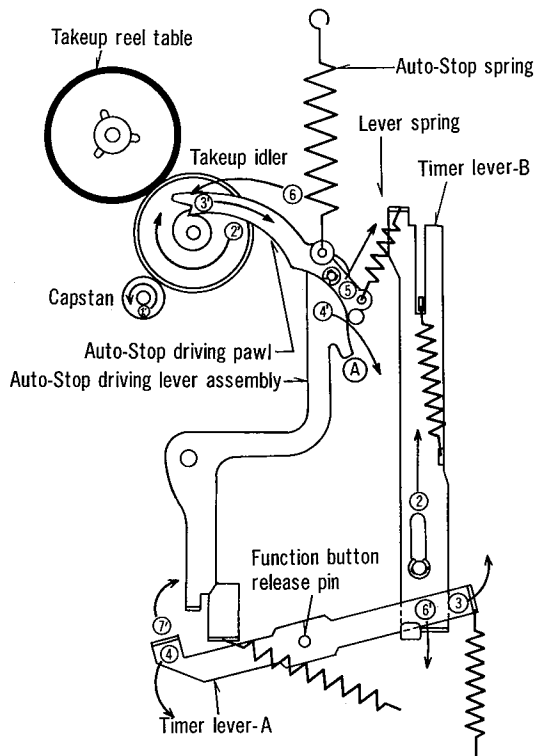
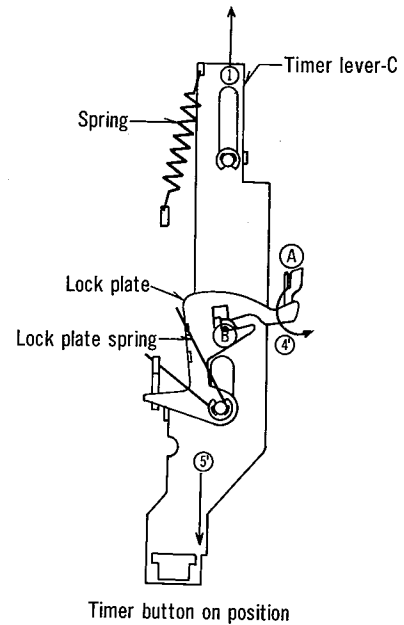

Fig. 1
Fig. 2
The explanation of this mechanism will be made based on the drawings which are described as shown in fig. 1, 2 and 3.
(1) When the power ON/OFF switch is turned **"OFF"** position (with the timer stand-by button in the **"ON"** position) as shown in fig. 1 and 2.
1. The timer lever-C is pushed in the direction of arrow (①) as shown in fig. 2.
2. The lock plate and the timer lever-C are locked at point (B).
3. When the timer lever-C is moved in the direction of arrow (①), timer lever-B and timer lever-A move at the same time in the directions of arrows (②) and (③) and (④) as shown in fig. 1.
(2) When the power ON/OFF switch is turned **"ON"** position (with the timer stand-by button in the **"ON"** position) as shown in fig. 1 and 2.
1. The motor starts rotating, and the capstan rotates in the direction of arrow (①).
2. Because the capstan contacts the takeup idler it rotates in the direction shown by arrow (②) at the same time when the capstan rotates.
3. When the takeup idler rotates, the Auto-Stop driving pawl is pushed outward in the direction of arrow (③), and the Auto-Stop driving lever assembly functions in direction shown by arrow (④). See fig. 1.
4. The lock plate is released at the same time that part (A) of the Auto-Stop driving lever assembly moves toward (④). See fig. 2.
5. Timer lever-C and lever-B return in the direction of arrows (⑤) and (⑥), and timer lever-A also returns in the direction of arrow (⑦).